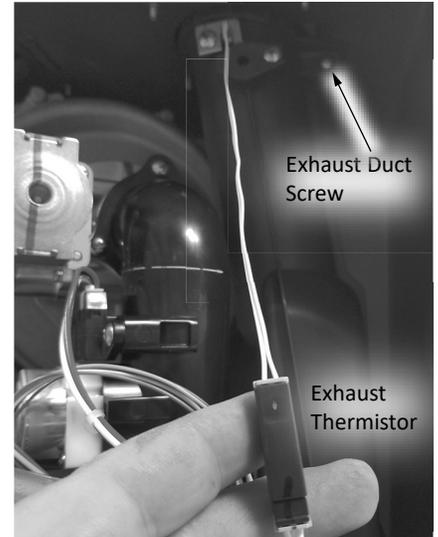

Figure 50: Exhaust Thermistor.
- 23 Disconnect the exhaust thermistor (# 718) and move the wires aside. Remove and set aside the screw securing the exhaust duct to the top of the water heater enclosure. See Figure 50.